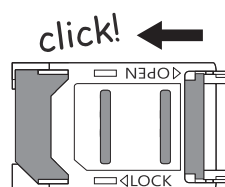

Fig. 29
5. Slide the SIM holder back to the left until it 'clicks', see **Fig.29**.